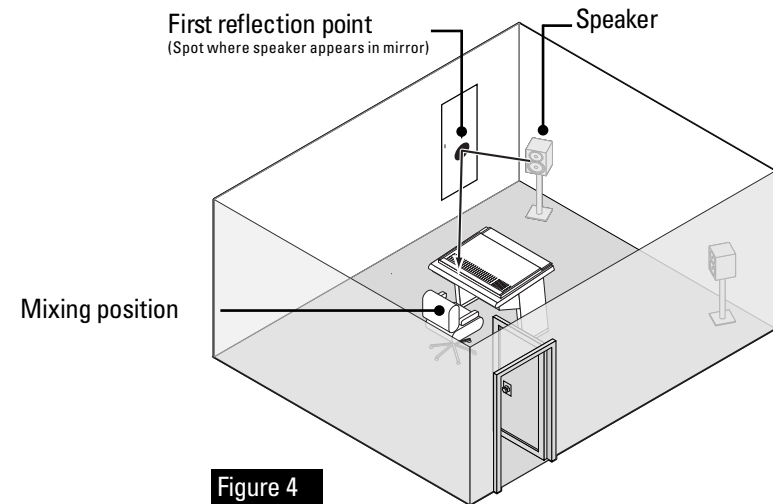

Figure 4
- Hang the first pair of panels from the V-Bars at the first reflection point as shown in Fig. 4.